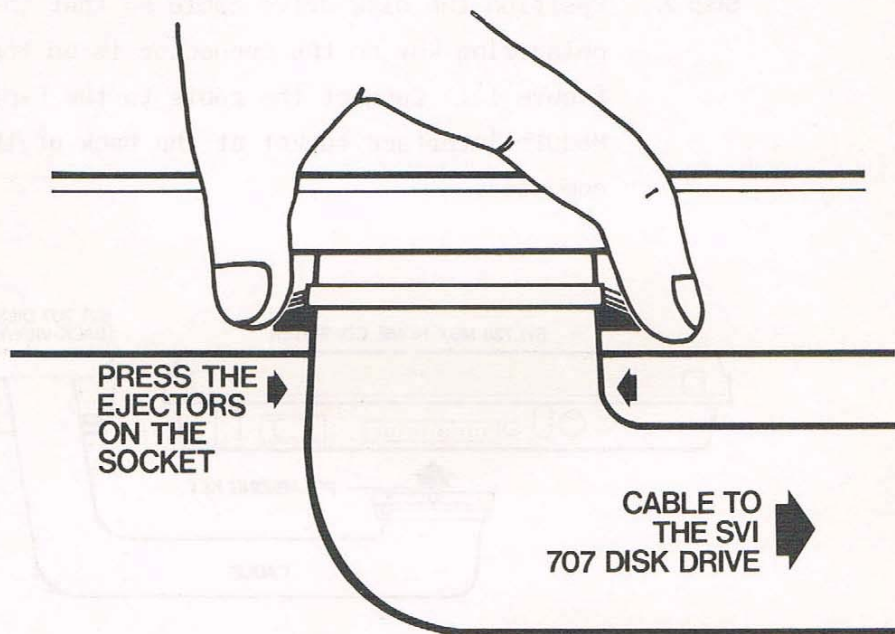

Figure 2 Closing the ejectors
Step 3. Close the ejectors on the socket to securely fasten the connector and the socket together (see figure 2).